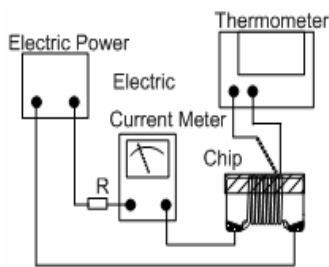

Fig. 6.3.5-1
- d. Definition of Rated Current ( $I_r$ ):  $I_r$  is direct electric current as chip surface temperature rose just  $20^\circ\text{C}$  against chip initial surface temperature ( $T_a$ ) (see **Fig. 6.3.5-2**).